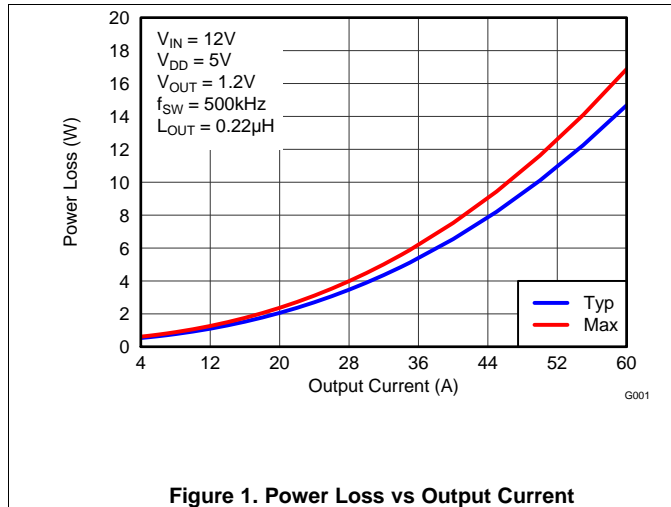

Figure 1. Power Loss vs Output Current
MOSFET centric parameters such as  $R_{DS(ON)}$  and  $Q_{gd}$  are primarily needed by engineers to estimate the loss generated by the devices. In an effort to simplify the design process for engineers, Texas Instruments has provided measured power loss performance curves. Figure 1 plots the power loss of the CSD95372AQ5M as a function of load current. This curve is measured by configuring and running the CSD95372AQ5M as it would be in the final application (see Application Schematic). The measured power loss is the CSD95372AQ5M device power loss which consists of both input conversion loss and gate drive loss. Equation 1 is used to generate the power loss curve.
The power loss curve in Figure 1 is measured at the maximum recommended junction temperature of  $T_j = 125^\circ\text{C}$  under isothermal test conditions.
- Typical Power Loss at 40 A = 6.5 W (Figure 1)